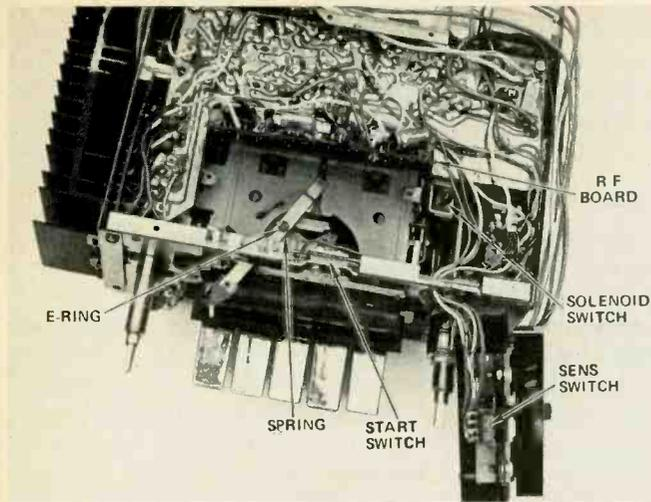

Fig. 1—Top view of Delco-produced signal-seeking car radio. (Courtesy of Delco Electronics.)
Fig. 1 shows a typical signal-seeking radio made by Delco. The large printed-circuit (PC) board contains the IF amplifier and detectors. The Permeability Tuning Mechanism (PTM) and the switch which initiates the "seek" cycle